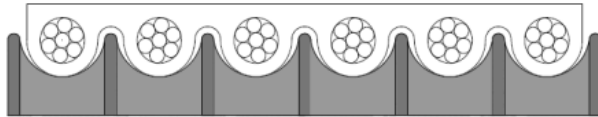

Fig. 16: Traction Member (CONTI POLYROPE® 25-6x2.0) with idler [ContiTech]
- The traction member protrusions must be positioned in the pulley grooves (see Fig. 16).